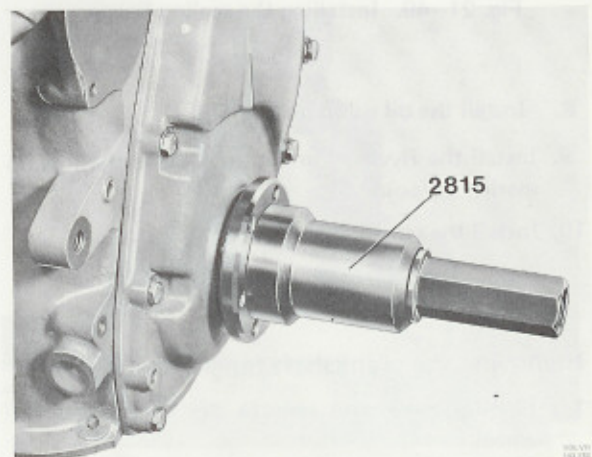

Fig. 21-52. Installing the polygon hub
9. Replace the timing gear cover gasket and seal and fit the cover. Install the polygon hub with press tool 2815, Fig. 21-52. Install the vibration damper and crankshaft pulley. Install the drive belts and the adjust the belt tension.